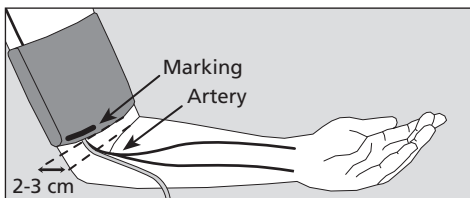

figure 2
- ➔ Open the cuff to form a ring shape and slip it over the upper arm until the lower edge of the cuff reaches a point about 2-3 cm above the elbow. The cuff must be positioned so that the marking lies on the artery (see figure 2).